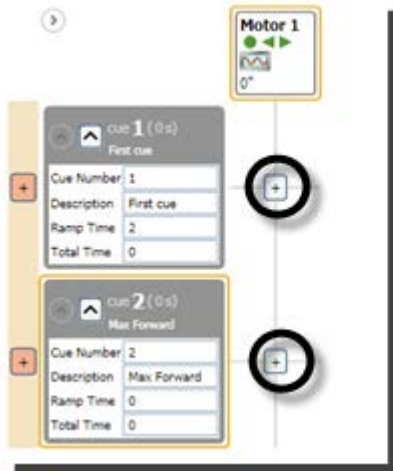

Figure 126
1. Press the “+” button that is displayed at the intersection of the cue row and the motor column (Figure 126).